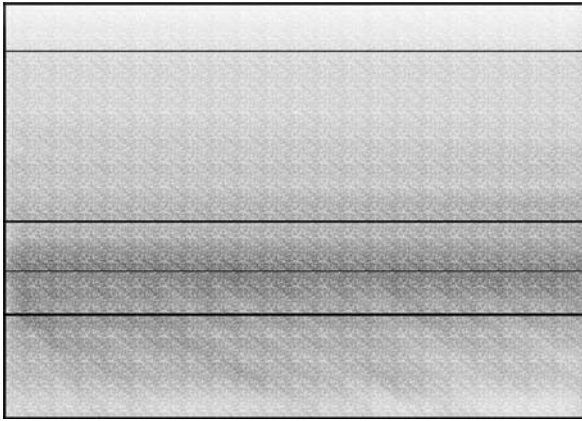

Fig 1.
2. Mark a line on both the floor and wall to mark the position of the fillet. Keep all lines straight and square. (See Fig 1.)